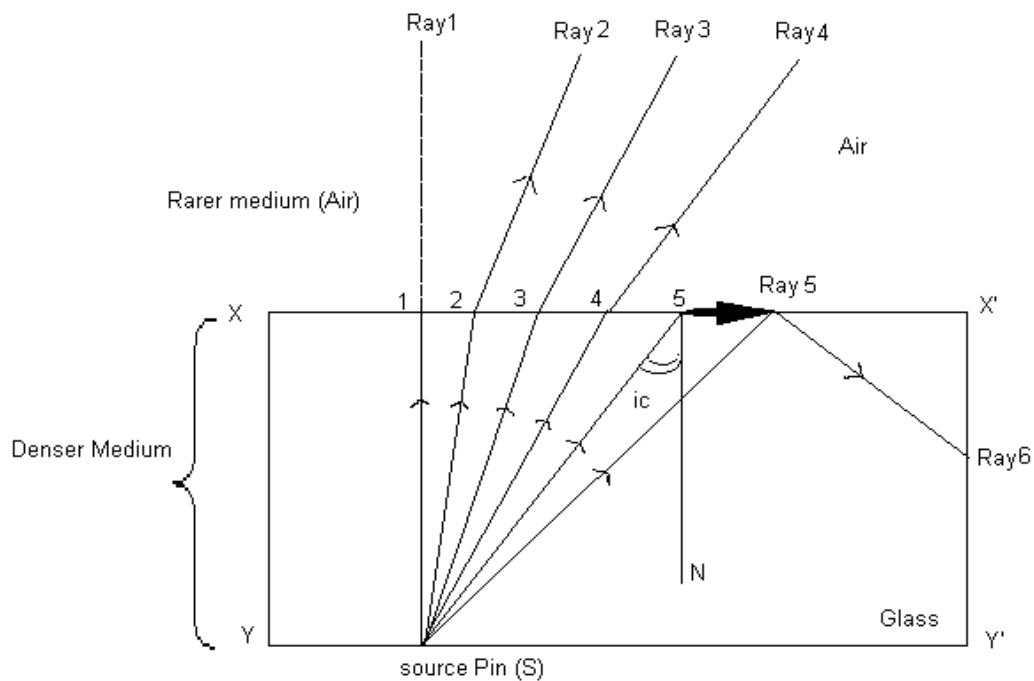

Fig.02
6. Mark the position outline with pencil , label it as XX' and YY' as given in Fig. 02
13. Draw normal (N) to plane XX' through point 5.
14. Locate point 6 as shown in Fig.02.